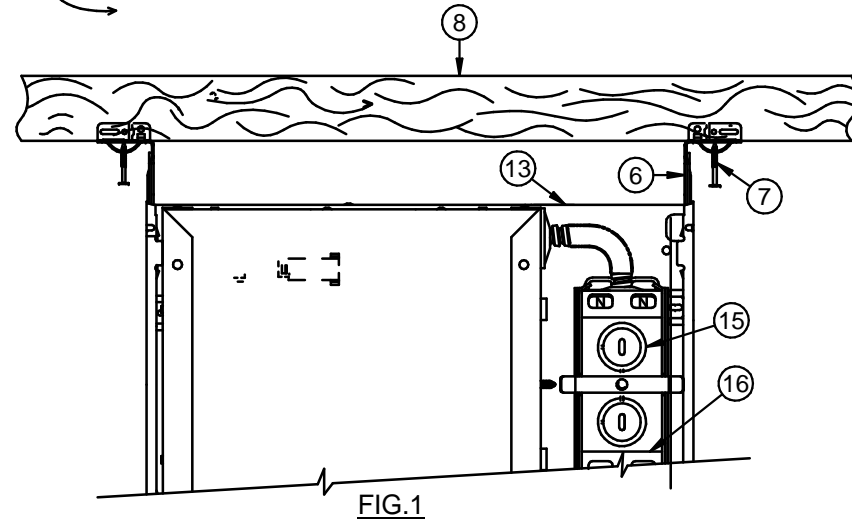

FIG. 1
1. For Wooden Joists: Extend the Bar Hangers (6), use joist alignment tabs to locate fixture and position underneath the support joist (8). Drive the 4 Nails (7) into Joists (8) (Fig. 1 & 3). Drive additional nails through holes in Bar Hanger for alternate support if required. Bar Hangers may be bent to fix tight mounting conditions.